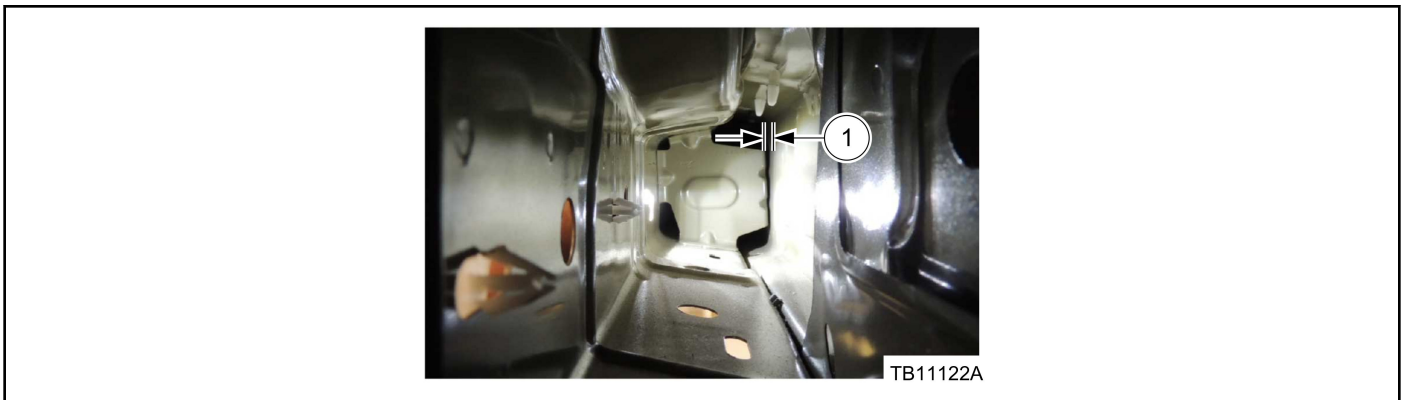

Figure 1 - Article 17-0059
4. Using a prybar or equivalent tool of approximately 61 cm (24") long, create a 2-4 mm (0.079-0.157 inches) clearance between the rocker panel bracket and the rocker inner panel. (Figure 1)